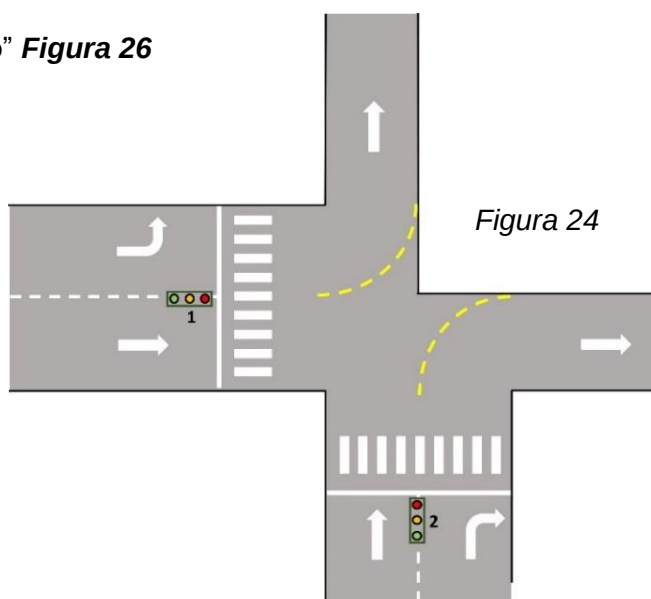

Figura 24
- “Draft Layout_2 luci” **Figura 24**